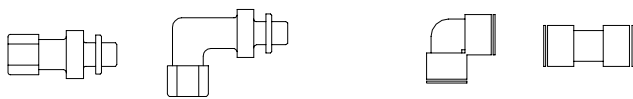
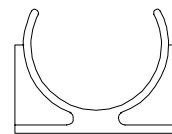
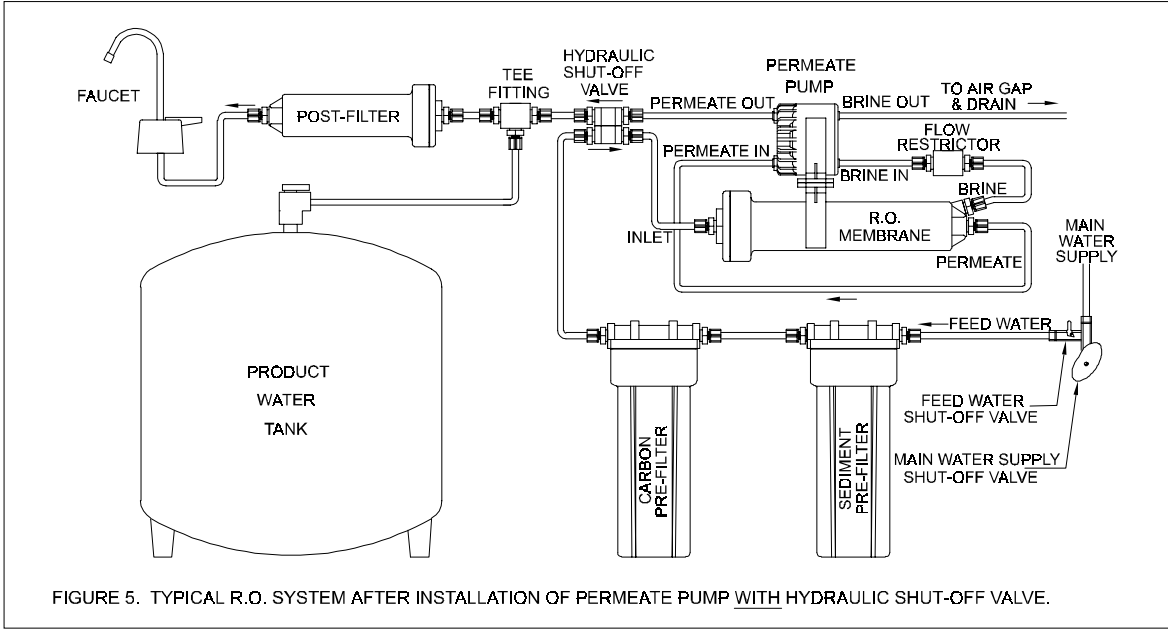
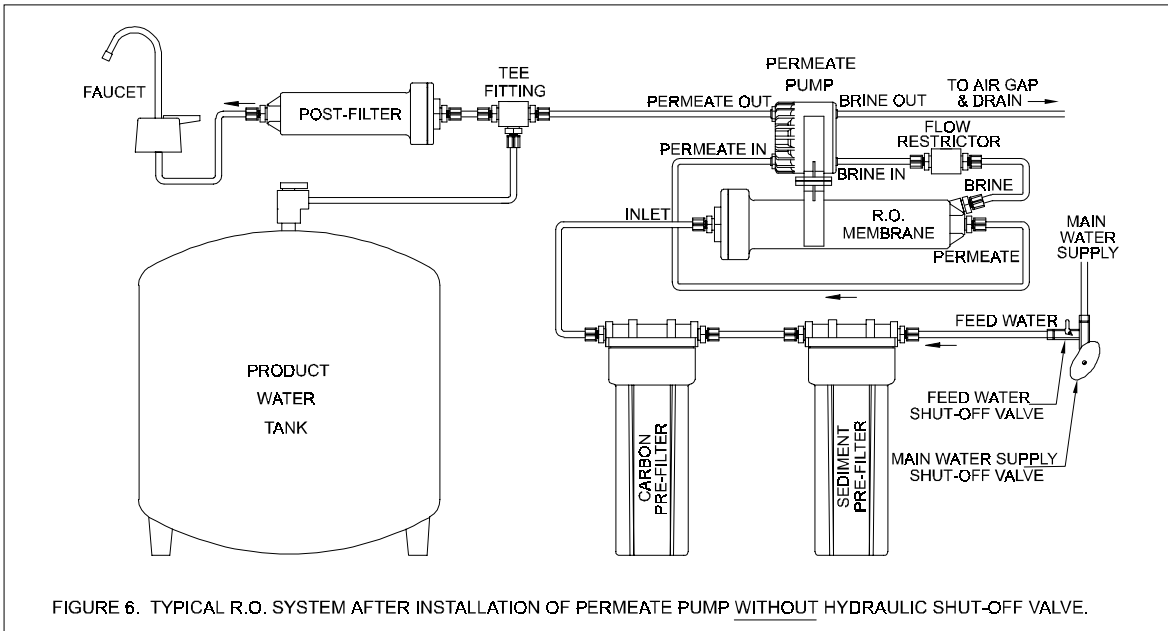

FIGURE 2. JACO® AND JOHN GUEST® ELBOW AND STRAIGHT FITTINGS
FIGURE 3. MEMBRANE CLIP
FIGURE 5. TYPICAL R.O. SYSTEM AFTER INSTALLATION OF PERMEATE PUMP WITH HYDRAULIC SHUT-OFF VALVE.
FIGURE 6. TYPICAL R.O. SYSTEM AFTER INSTALLATION OF PERMEATE PUMP WITHOUT HYDRAULIC SHUT-OFF VALVE.
3. **Mounting of Permeate Pump:** Two methods are commonly used. If you ordered Part Number 25-021 Permeate Mounting Clip Kit, (includes clip and 2 #10 x 3/4" self tapping screws) mount the clip on the systems bracket or other suitable location using the two screws provided. Also available, upon factory request, is a retrofit kit consisting of a membrane housing clip with nut and screw (Figure 3). Drill a #10 hole in the center of the base of the Permeate Pump Mounting Clip and join the two clips (Permeate Pump and membrane housing) at their bases using the screw and nut provided. The Permeate Pump mounts onto the R.O. membrane housing using the clip assembly.
- b. Connect a new tube from the "**PERMEATE OUT**" fitting on the **Permeate Pump** to the inlet side of the hydraulic shut-off valve as shown in Figure 5. Be sure the tube bottoms out on the fitting. If it is desired not to use the hydraulic shut-off valve, connect the permeate pump as shown in Figure 6 (see installation notes).
As shown in Figure 6, the hydraulic shut off valve may be removed from the system and the Permeate Pump will operate as the shut off valve. This configuration may be used only if a substantial volume of water is drawn from the tank each time. The benefit is that the system will produce more water than with the shut off valve installed. If however, the amount of water withdrawn is small (a cup at a time), it is recommended that the hydraulic shut off valve be retained as shown in Figure 5. This will reduce TDS creep of the RO membrane. The addition of the Permeate Pump decreases the time to fill the tank, but it does not reduce the amount of water produced. For manifold type RO systems, contact the factory for installation recommendations.
**Fittings:** Optional JACO® or John Guest® straight or elbow quick disconnect (Figure 2)
**Mounting:** Always mount with outlet ports up. Mounting clip (ABS) with (2) #10 S.S. screws available
**Retrofit Mounting:** Order membrane clip if required (Figure 3). Base of Membrane clip attaches to base of Permeate Pump clip with supplied fastener. Permeate Pump can then be mounted to membrane with clip assembly as shown in Figures 5 & 6.